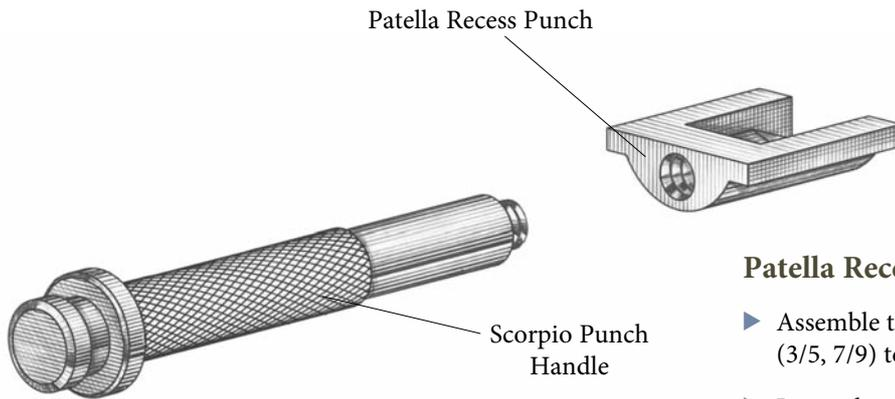

Figure 29
- ▶ Assemble the appropriate size Patella Recess Punch (3/5, 7/9) to the punch handle (**Figure 29**).